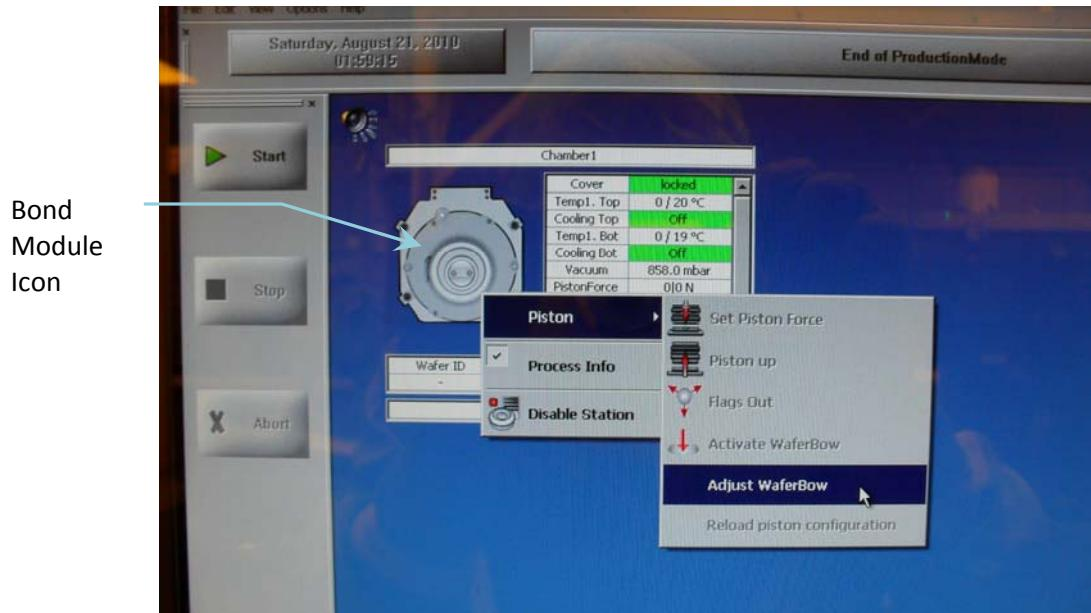

Figure 7, Bond Module Submenu
- 7.2.1 Click on the bond module icon to open the submenu. See *Figure 7, Bond Module Submenu*.